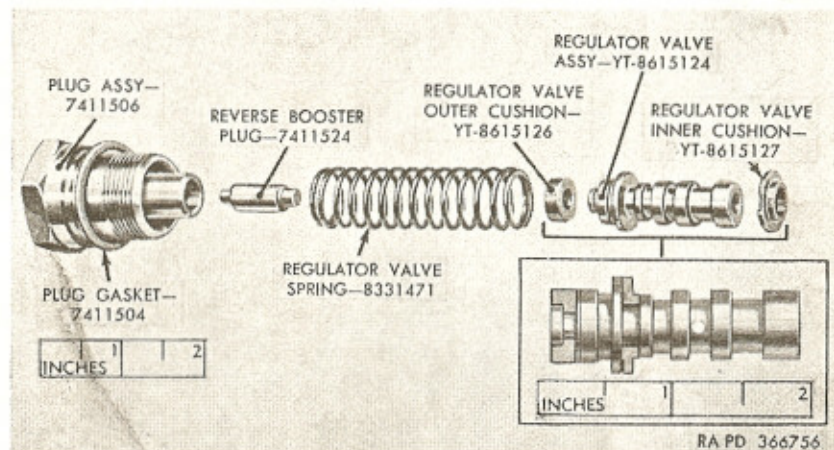

Figure 199. Transmission oil pressure regulator valve components (301MG).
b. On 301MG transmission regulator valve only, install inner and outer cushion on valve into grooves as shown in inset of figure 199.